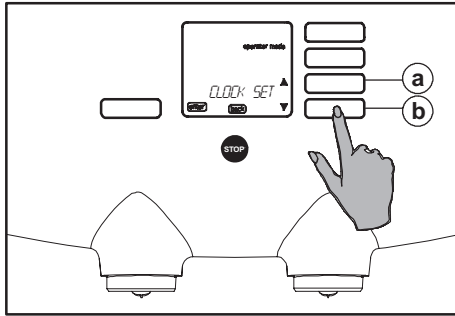

Fig. 53 Selection menu "clock set"
3. Use the scroll buttons \updownarrow (fig. 53 a or b) until the option "CLOCK SET" shows in the display.